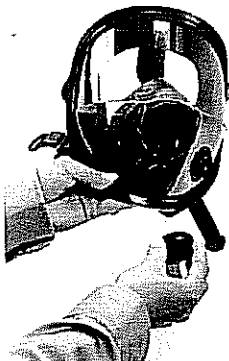

FIGURE 13
- 4a) For the 7600 Series, unscrew and remove the exhalation valve guard, valve and seat. (See Figure 13.)